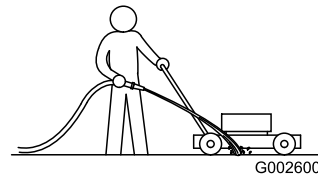

Figure 13
3. With the engine running and the blade engaged, spray a stream of water in front of the **right**, rear wheel (Figure 13).